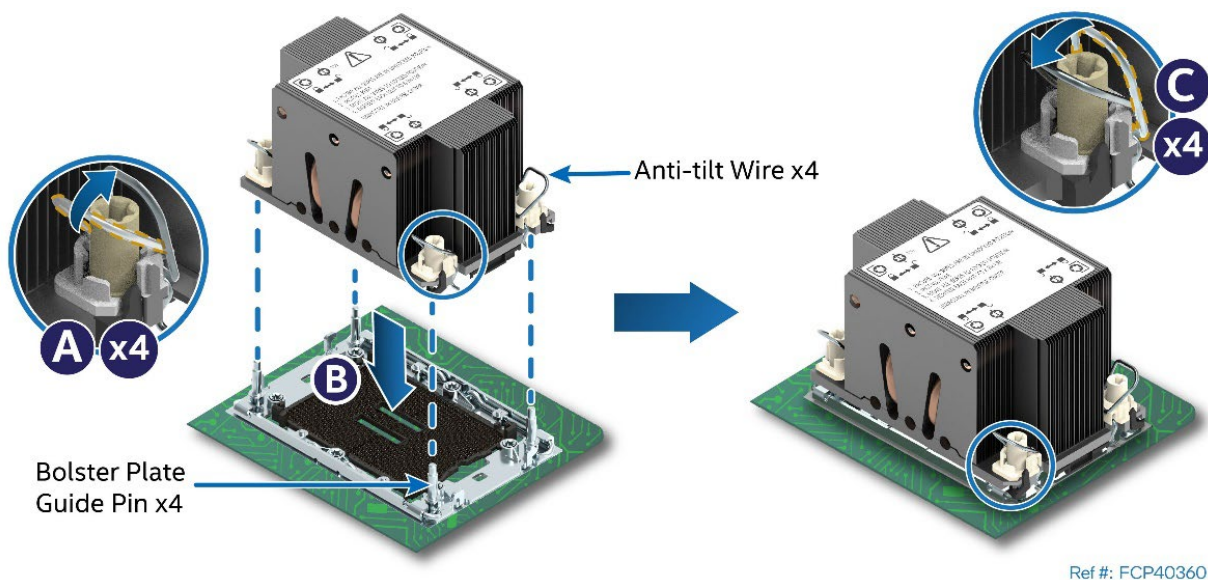

Figure 123. PHM Installation onto Server Board
2. Set anti-tilt wires on all four corners of the heat sink to the inward position (see Letter A in Figure 123).
18. Install the six screws on the chassis back panel (see Figure 123).